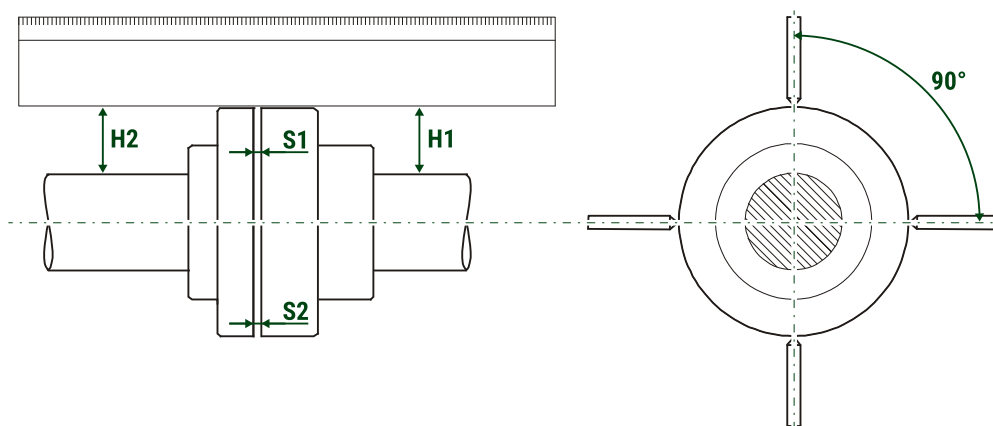

Figure 7 (Pump/motor alignment)
- **Centre-of-gravity position:** identified strictly on the overall dimension drawing; see Figure 7 Pump centre of gravity, by means of the standard graphical symbol (a circle divided into quadrants with alternating black/white sectors). The dimensions shown on the drawing indicate the exact spatial position of the centre of gravity with respect to the machine axes.